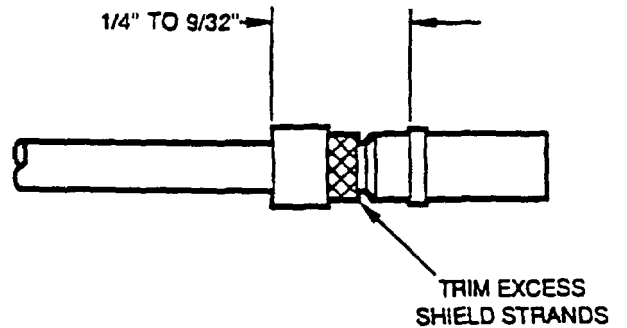

Figure 10. Trim Shield
i. Arrange shield as close to original lay as possible. Slide crimp sleeve over shield and obtain 1/4 to 9/32-inch dimension. Trim excess shield ahead of crimp sleeve (Figure 10).